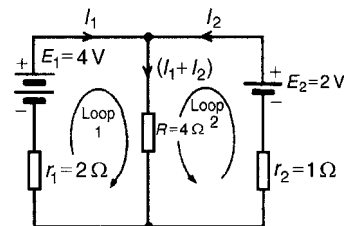

Figure 13.5
1. Use Kirchhoff's current law and label current directions on the original circuit diagram. The directions chosen are arbitrary, but it is usual, as a starting point, to assume that current flows from the positive terminals of the batteries. This is shown in Fig. 13.5 where the three branch currents are expressed in terms of I_1 and I_2 only, since the current through R is $(I_1 + I_2)$
2. Divide the circuit into two loops and apply Kirchhoff's voltage law to each. From loop 1 of Fig. 13.5, and moving in a clockwise direction as indicated (the direction chosen does not matter), gives
From loop 2 of Fig. 13.5, and moving in an anti-clockwise direction as indicated (once again, the choice of direction does not matter; it does not have
(i.e. I_2 is flowing in the opposite direction to that shown in Fig. 13.5)